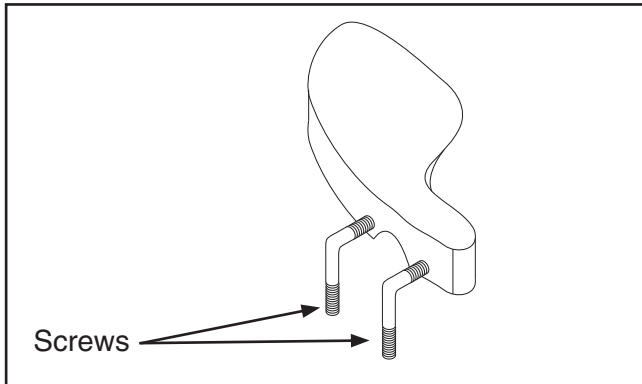

Figure 14. Screws installed onto chin rest.
1. Remove the two screws from the chin rest mounting bracket assembly, and thread them into the pre-drilled holes on the chin rest as shown in **Figure 14**.